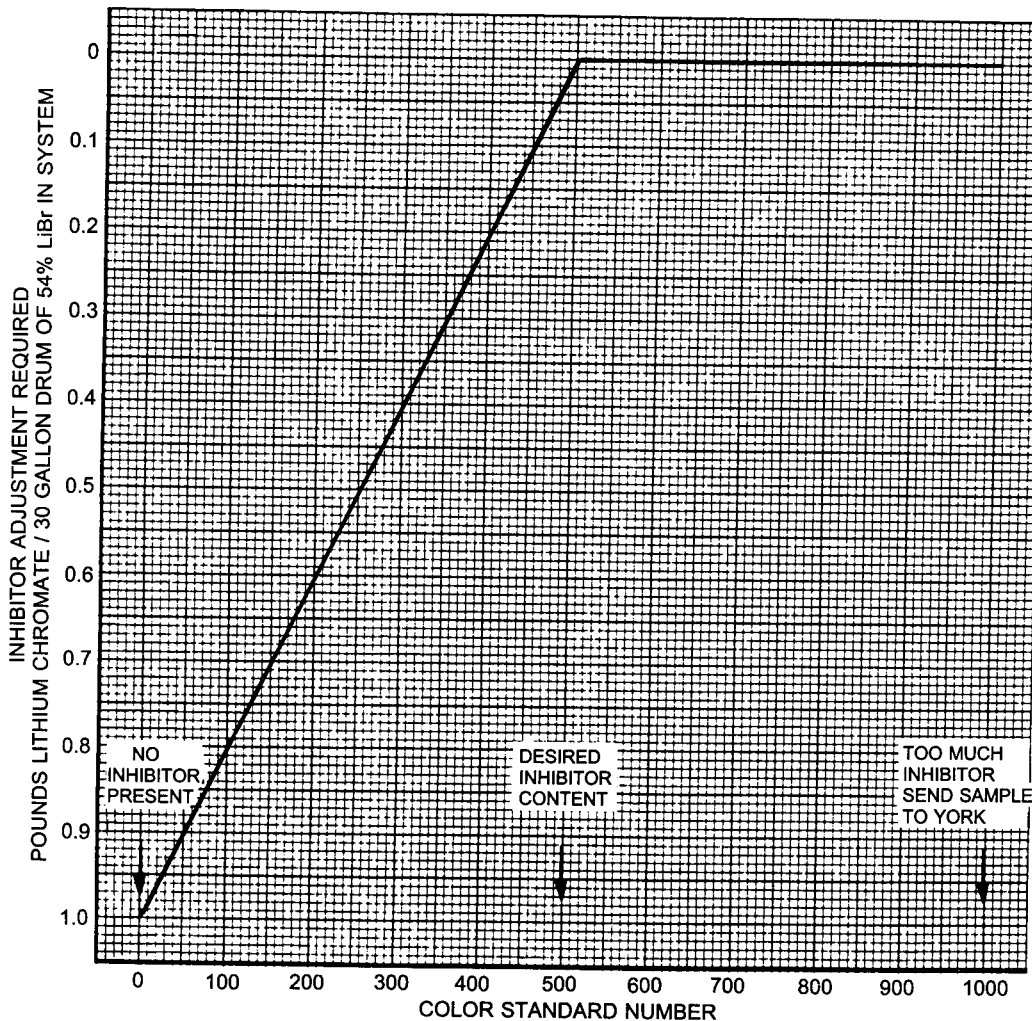

FIG. 18 – LITHIUM CHROMATE NEEDED PER 30 GALLON DRUM OF 54% LiBr IN SYSTEM
f. A curve shown in Figure 18 can be used to facilitate the determination of the number of pounds Lithium Chromate needed per 30 gallon drum of 54% LiBr. Table 5 gives the number of drums of LiBr in the model YIA-1A1 thru YIA-14F3 units.
g. Table 5 and Figure 18 apply only to samples that have been adjusted to 54% Lithium Bromide. They can be used for concentrations other than 54%, but a mathematical correction must be made.
Conclusion: Reference Figure 18 shows that no inhibitor adjustment is needed.
Conclusion: Reference Figure 18 shows that 0.73 pounds of inhibitor are required for each 30 gallon drum of 54% LiBr in the system.